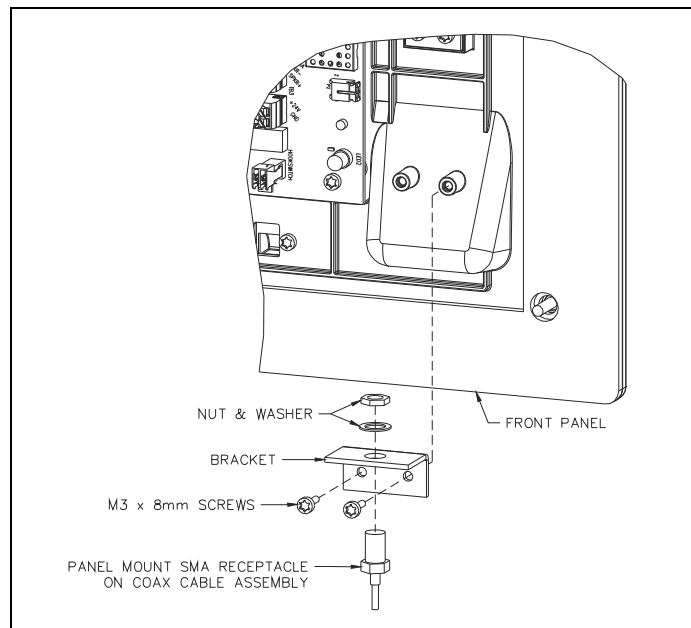

Figure 2. Bracket Assembly
2. Install the bracket on the front panel in the location shown using the M3 × 8 mm screws (see Figure 2).
4. Secure the SMA receptacle of the 8-inch coaxial cable assembly to the bracket using the nut and washer provided on the receptacle (see Figure 2).